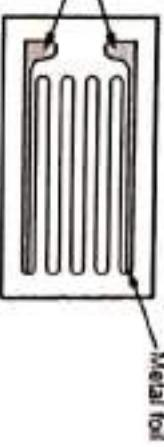

Fig. Q.45.1 Foil strain gauge
**Ans. :** • Fig. Q.45.1 shows the structure of metal foil strain gauge. In this strain gauge, the strain is measured using a metal foil. The metals and alloys used for the foil are nichrome, constantan, isoelastic leads (Ni + Cr + Mo), nickel and platinum.